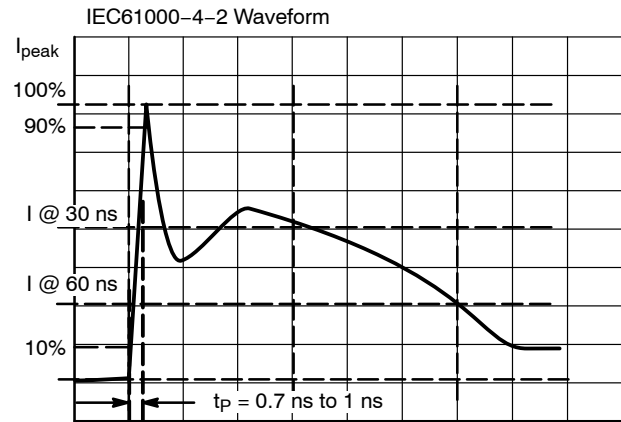

Figure 3. IEC61000-4-2 Spec
4. For test procedure see Figures 3 and 4 and Application Note AND8307/D.